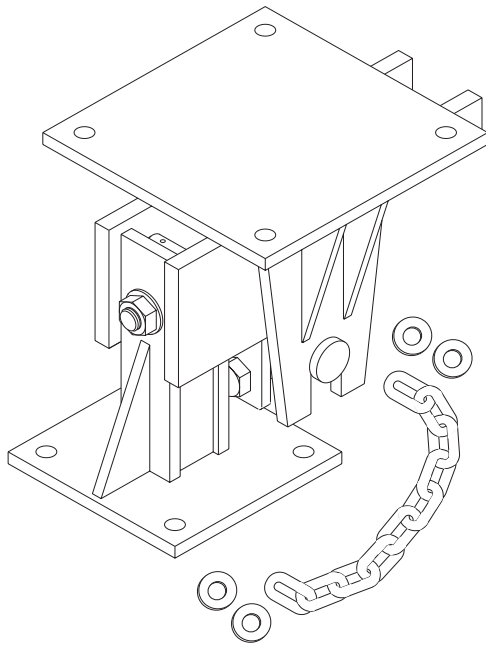

Figure 9
1. Separate the chains and washers so each of the four scale base corners have one chain and four washers (see Figure 9).